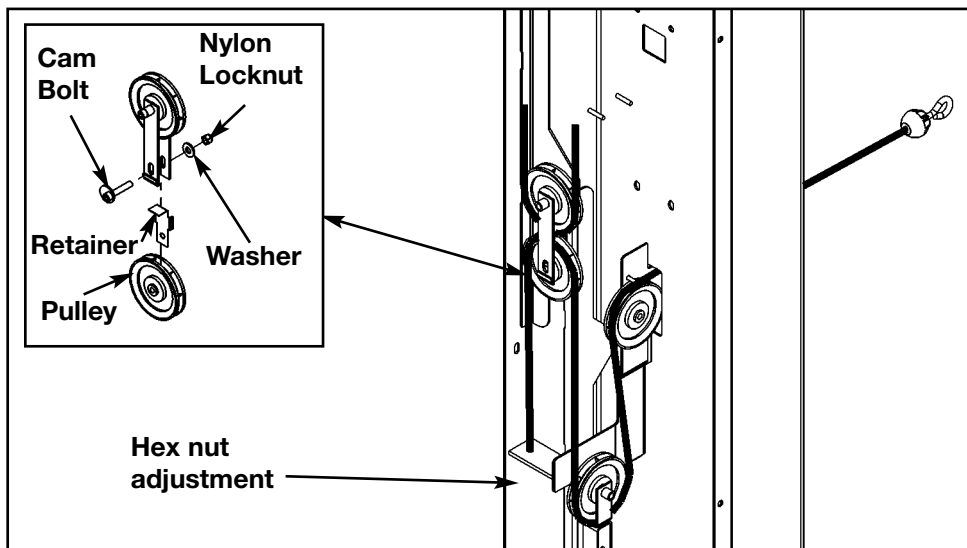

Figure 1
**2. Check tension on next cable** (see steps 2A - and Figure 1).
**A.** Adjust hex nut to to remove any excess slack. See Figure 1.